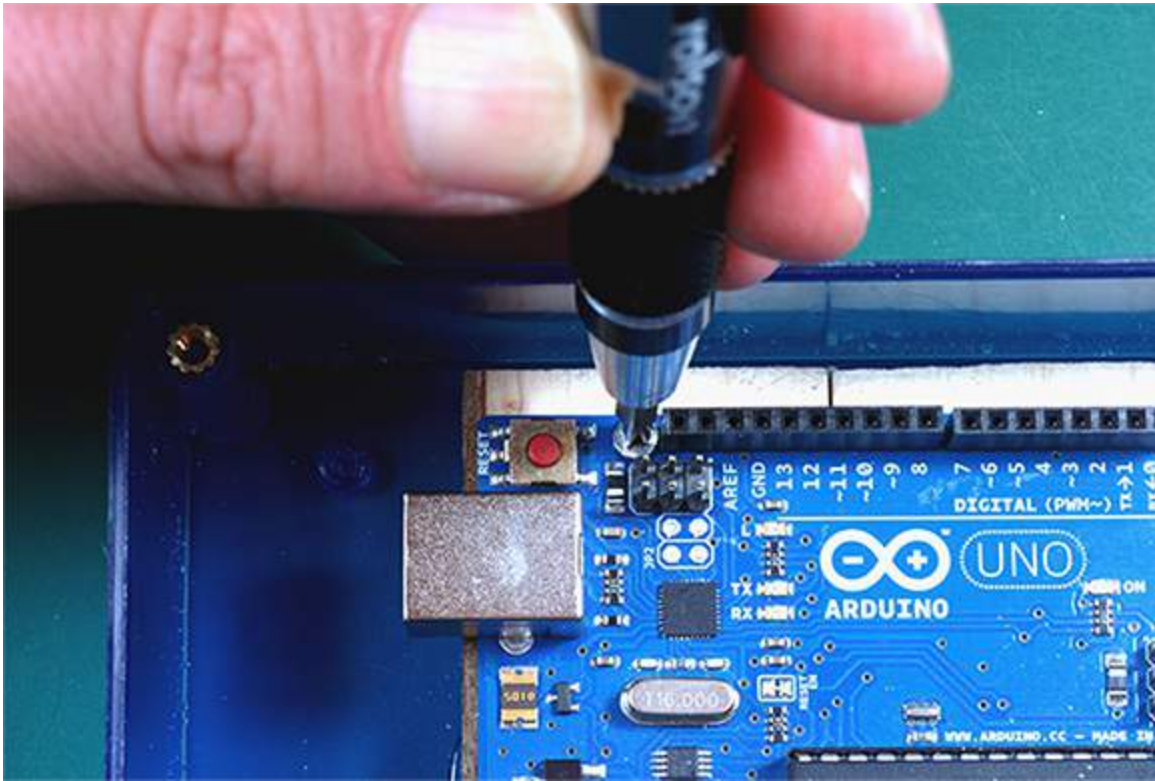
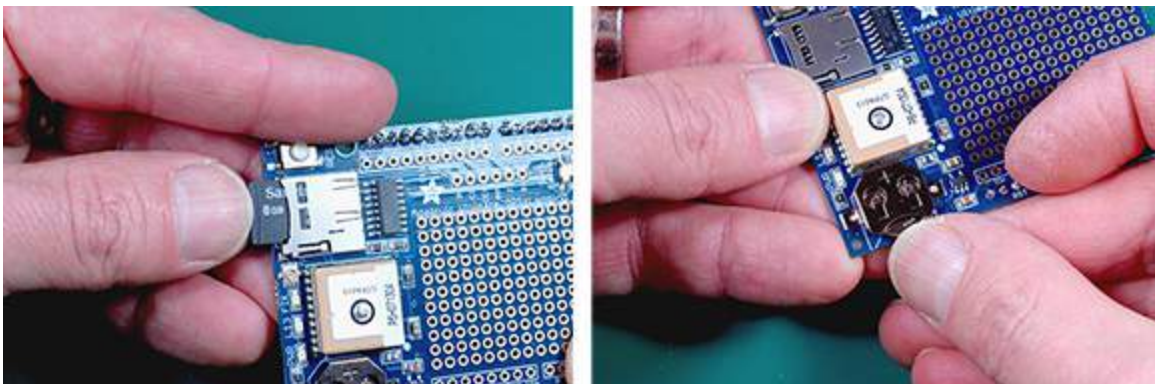

Figure 13-15: Soldering the power switch connections and installing your Arduino.
Figure 13-16: Installing your mini SD card and battery (after testing).
The power supply is simply your 9V battery connected to the switch. The positive lead is connected to one side of the rocker switch. The other side is connected to the Vin pin on your GPS shield, which is connected to your Arduino's power input pin (through a pin header on the shield). The negative lead goes straight to your ground pin. Do the following steps, as shown in [Figures \[Figure 13-15\]\(#\) and \[Figure 13-16\]\(#\)](#):
3. Separate your GPS shield from your Arduino and use three or four of your wood screws to secure your Arduino to the wood, as shown in Figure 13-15.
4. Insert your mini SD card into the shield, as in Figure 13-16.